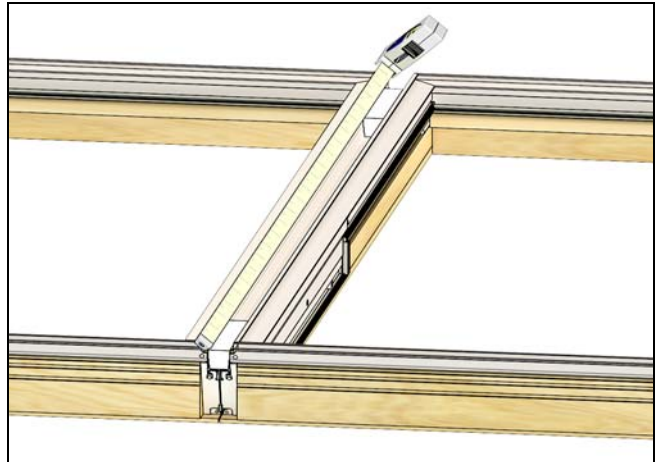

Figure 11
12. Measure length of mull from interior edge of accessory kerf on head jamb to interior edge of accessory kerf on sill. Transfer measurement to the aluminum mull cap and cut with a power miter saw. See Figure 11.